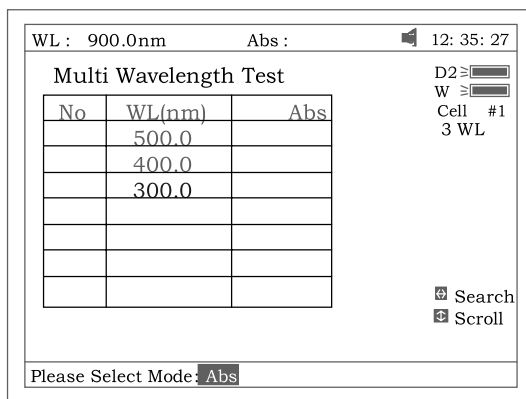

Fig69
2. Press **【F2】** to select mode (Fig 69).